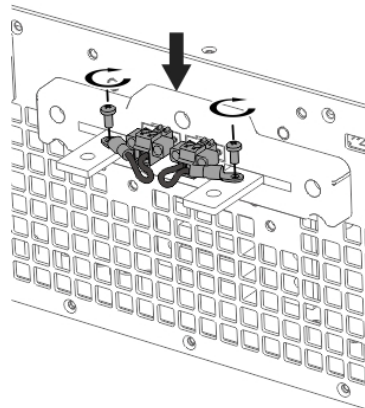

Figure 2-3
2. Figure 2-3 shows the correct connection. Use two wires to connect the positive/negative connector of load to the remote sensing connector on the rear panel. The connecting wire diameter must be larger than 22AWG, and its withstand voltage should meet the 3kV specification.